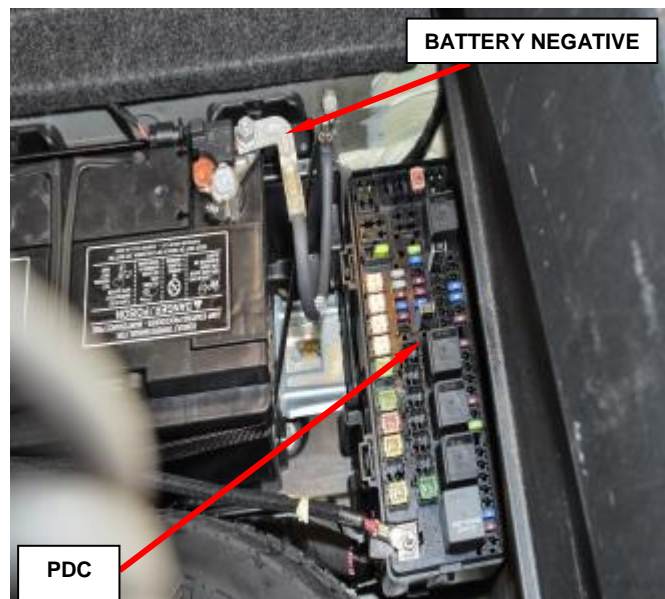

Figure 44 – Battery Negative
1. Disconnect and isolate the battery negative cable then remove the two Airbag Module fuses from the Power Distribution Center (PDC), see the PDC cover for the fuse locations. Wait two minutes for the system capacitor to discharge before further service (Figure 44).